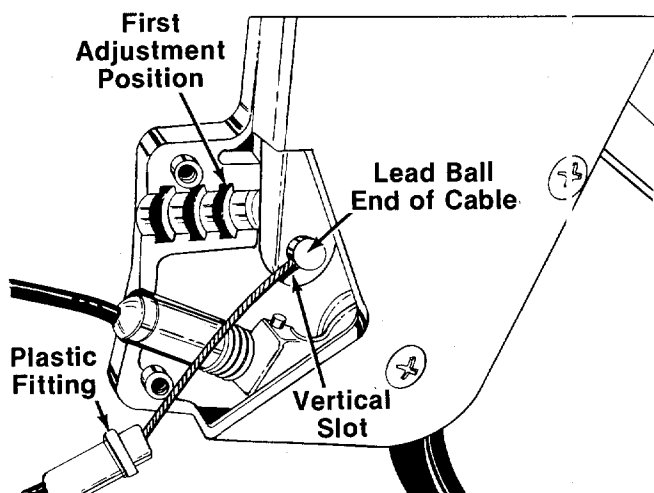

FIGURE 7.
- a. Place the lead ball end of the cable into the fitting provided in the end of the clutch control lever. Slip the braided wire into the vertical slot as shown in figure 7.
- c. Place the plastic fitting on the control cable into the first adjustment position in the clutch control housing. See figure 7.